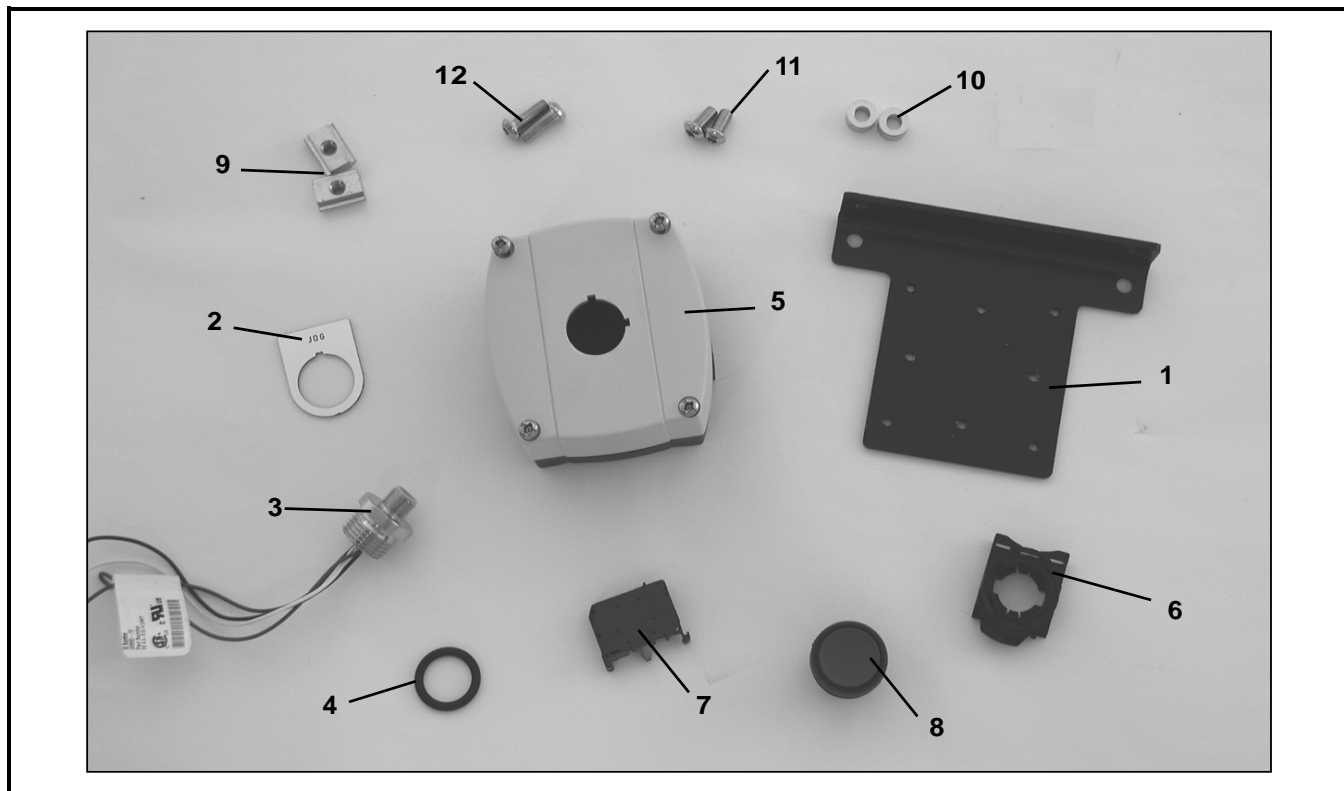

Figure 16
3. Figure 16 shows a typical wire routing or an accessory kit connection to the conveyor using the conveyors t-slot strip closures and wire ties.